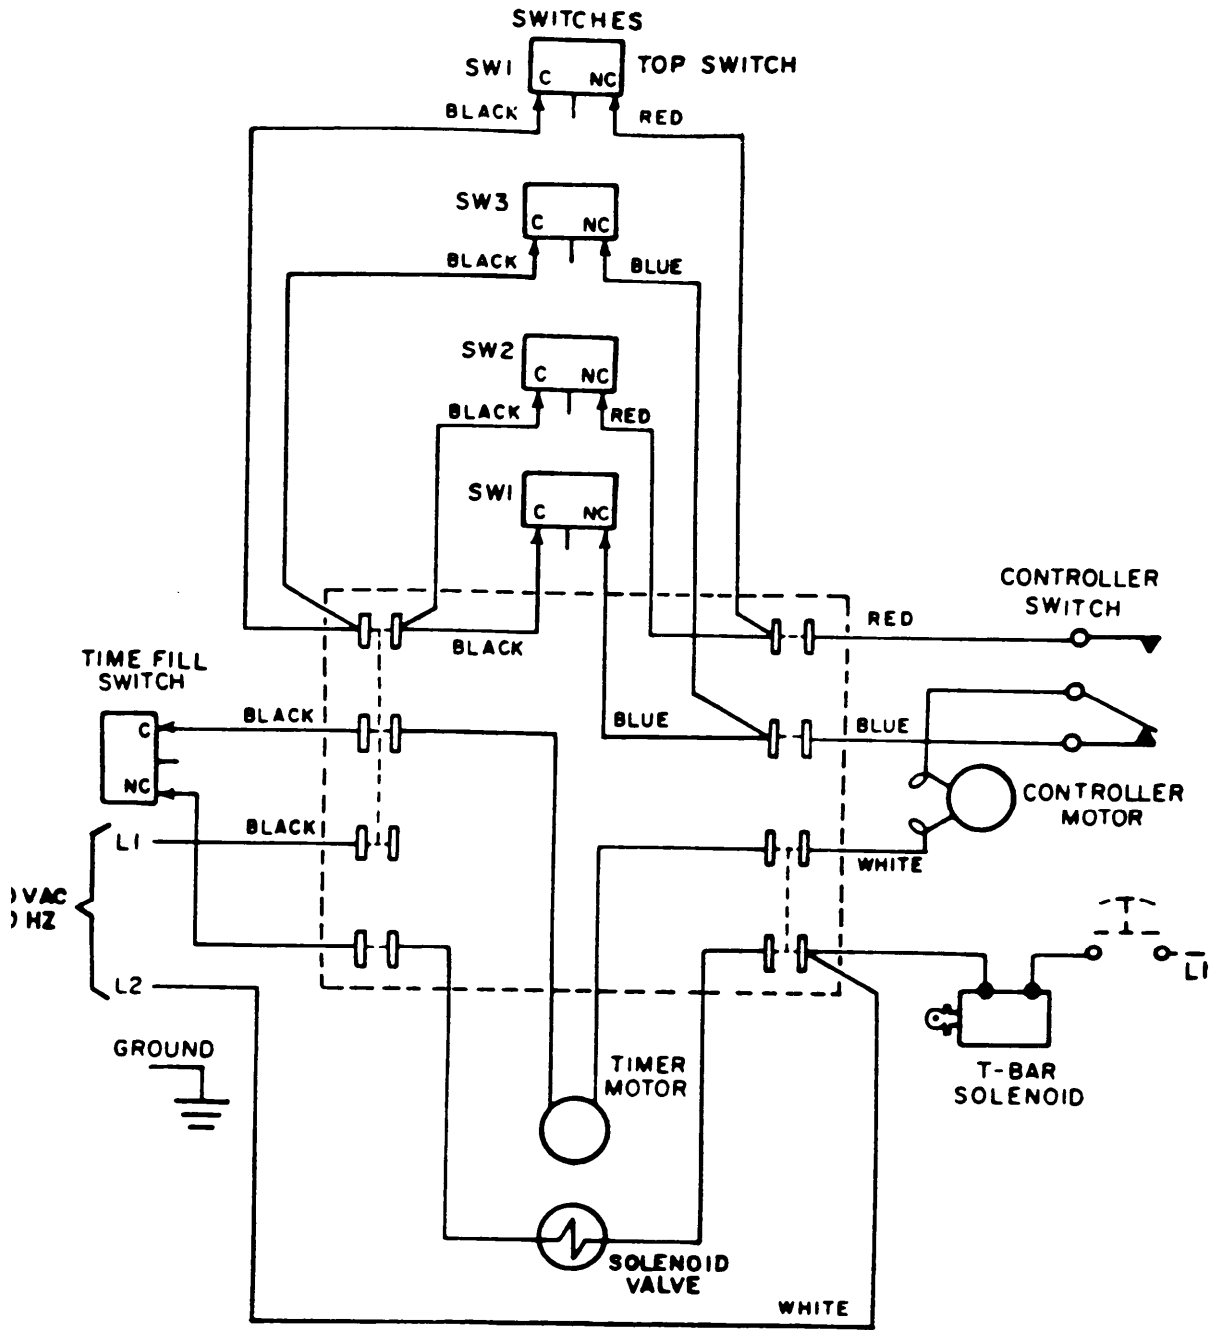

Figure 3-1 9. Backwash Timer Schematic (Mechanical)
- (6) Position third cam (30) (figure 3-1 8, sheet 1 of 2) to desired time for the OFF cycle.
- (7) Position fourth cam (31) to desired time for purge cycle.
- (8) Tighten cam setscrew (33) when all adjustments have been made.